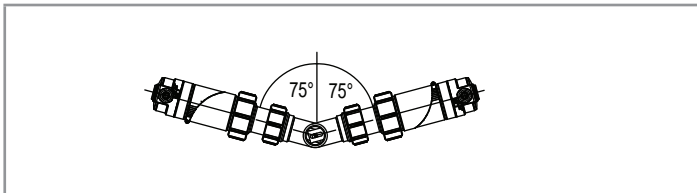

Fig. 11: Angle to the vertical
- Install the fitting in the pipe at an angle of $\pm 75^\circ$ max. to the vertical (see Fig. 11) in accordance with the instructions in the Operating Instructions for the fitting used.